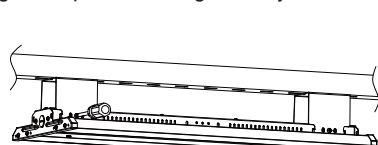
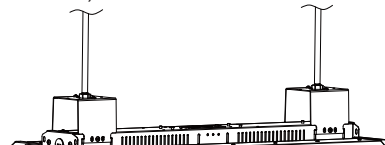

Figure 6
Figure 7
Step2. Mount bolt on the rail or ceiling, and mount the fixture bracket on the bolt (Figure 6); and then install the fixture. (Figure 7).